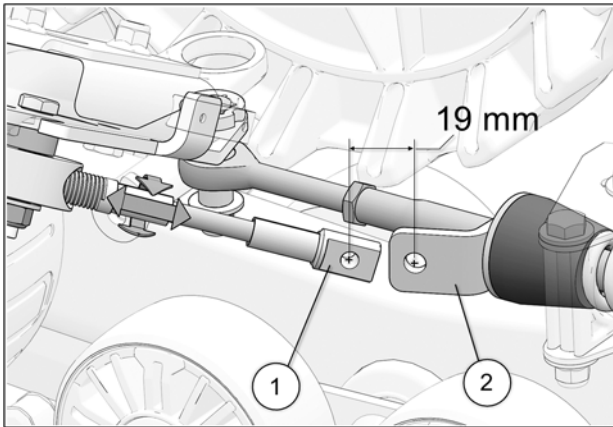

Fig. 35
18. Turn the vehicle's steering wheel to its maximum point of travel on the left. While maintaining pressure on the steering wheel, turn threaded rod to adjust length of cable. See Fig. 35
19. Position cable end hole (1) 19 mm [$\frac{3}{4}$ in.] short of support plate mounting hole (2). See Fig. 35